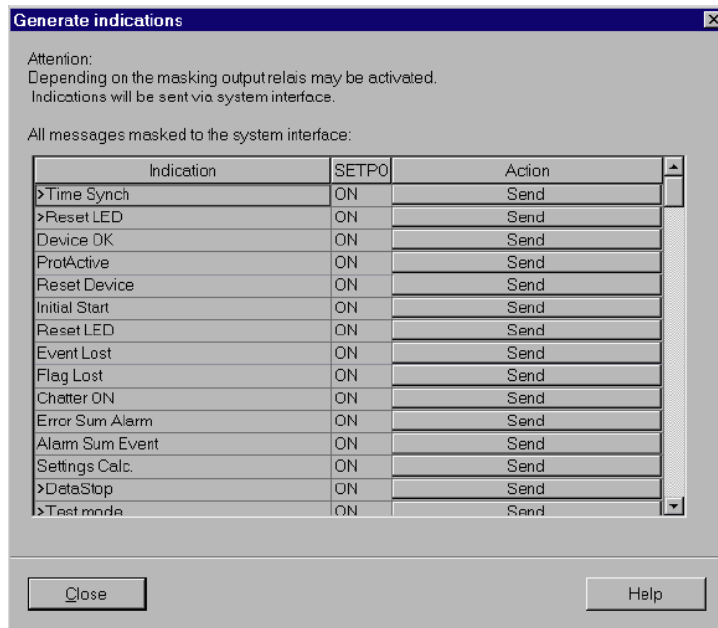

Figure 3-22 System interface test with dialog box: Generating indications – Example
- Double-click on **Testing Messages for System Interface** shown in the list view. The dialog box **Generate Indications** is opened (see Figure 3-22).